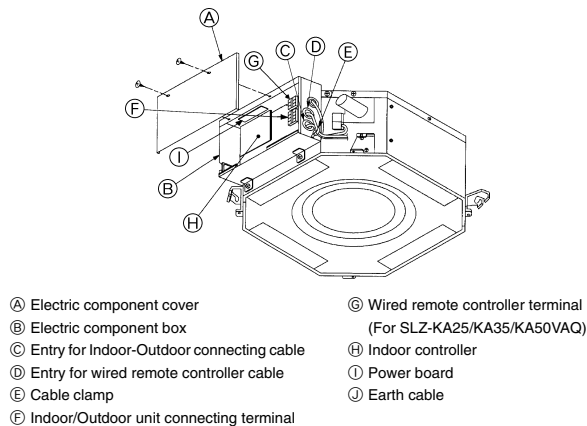
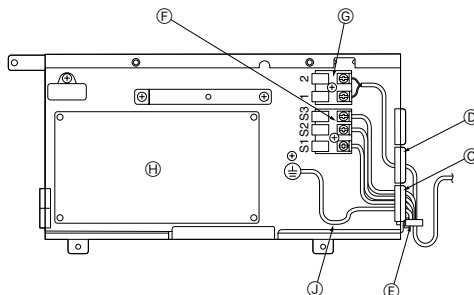

Fig. 7-2
Fig. 7-3
7.2. Indoor unit (Fig. 7-2) (Fig. 7-3)